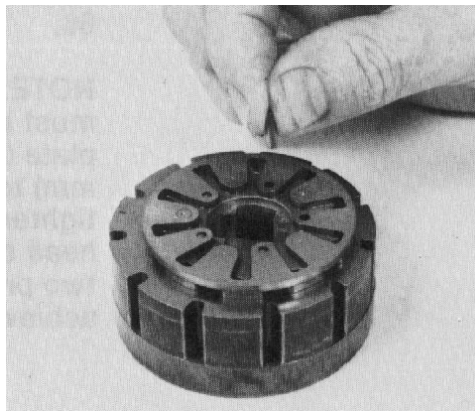

Figure 76
14. Align the five holes and press the five alignment pins in place (Fig. 76).